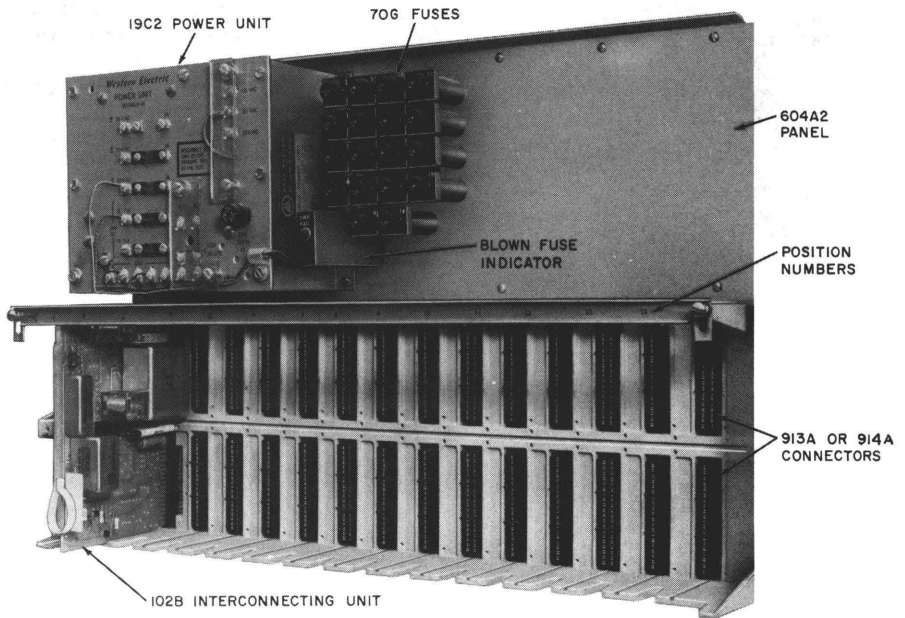

Fig. 2—102B Interconnecting Unit Mounted in 604A2 (MD) Panel
- Panel, 604A2 (MD) (includes 19C2 power unit and fuse panel; mounts fourteen 102-type IUs, Fig. 2)